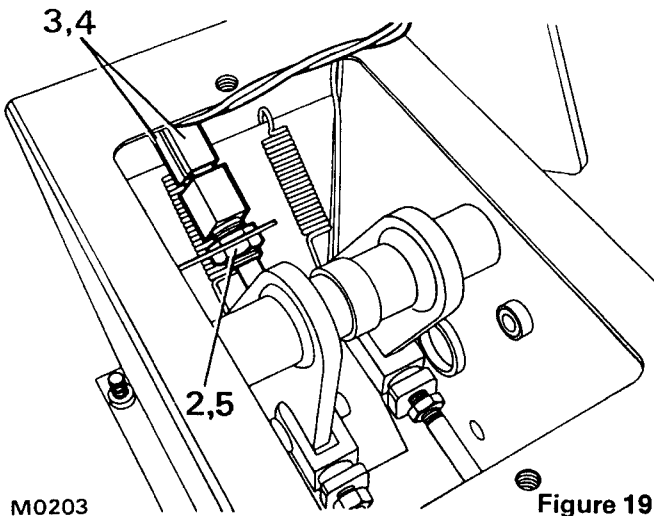

Figure 19
- 3 Disconnect the two leads from the brake light switch, see figure 19